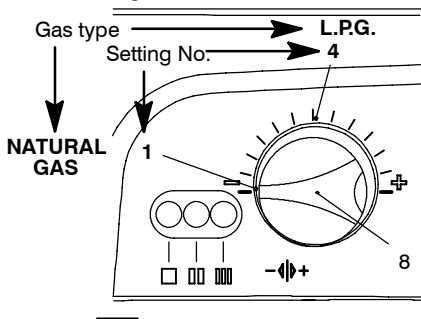

Fig. 8.5
number of times corresponding to the setting of the knob 8 in Fig. 8.5.
- 13 To change the setting turn the knob 8 on a position corresponding to the gas used as shown in Fig. 8.5.